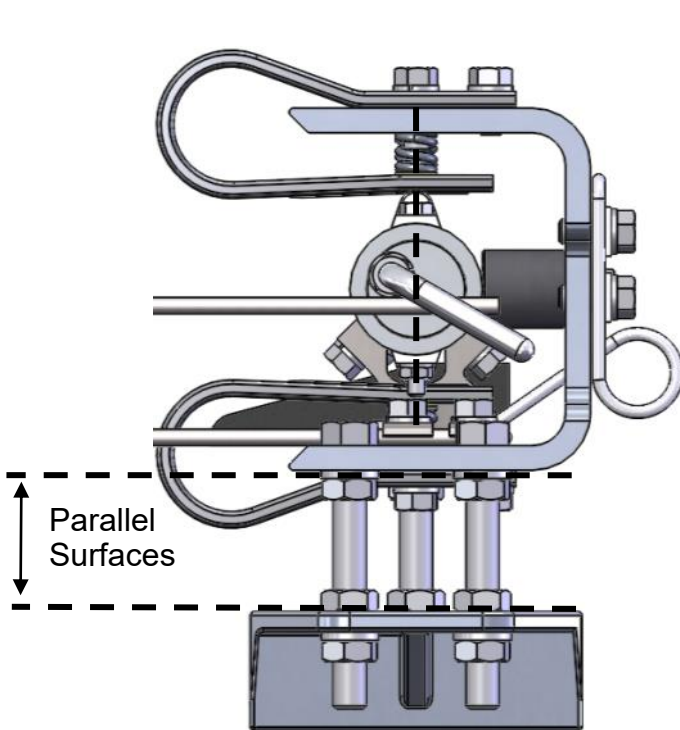
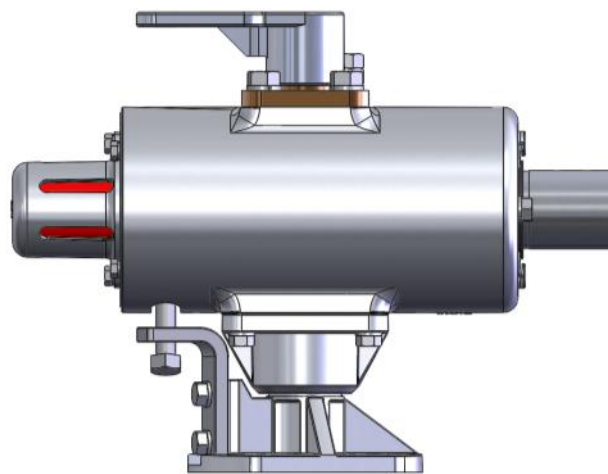

Figure 15 — Vertical adjustment, latched position, end view
Figure 20 — Indicator showing a latched switch
- 7. Operate the phase several times to make sure that it fully opens and closes each and every time. When the phase is fully closed, the blade contacts should be straight up and down in the jaw as shown in Figure 15 and the indicator should have changed from green to fully red as in Figure 20.